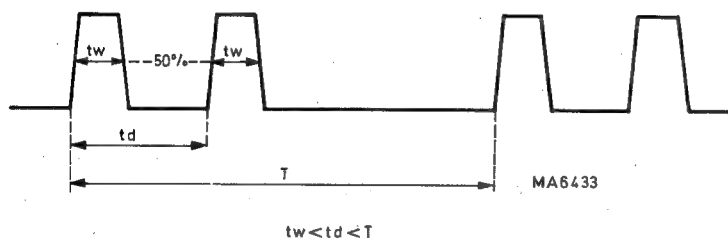

Fig. VI-6. Time settings at double-pulse operation
In the DOUBLE pulse mode, the relationship between repetition time, pulse width and delay time must be as shown in Figure VI-6. The relationship  $t_w < t_d < T$  implies that the duty cycle has to be less than 50 %.
- Check that the relationship between pulse width, delay time and repetition time is correct ( $t_w < t_d < T$ ). See Figure VI-6.